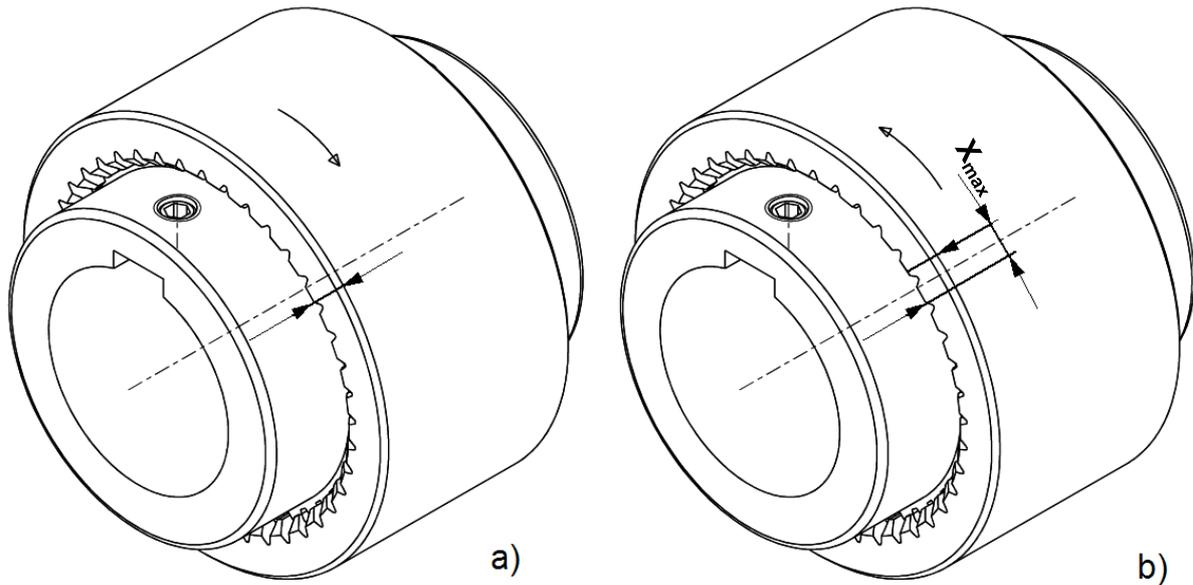

Figure 11.1: Checking the wear limit
- Turn hub (item 1) in one direction of rotation
- Make a marking on the hub (item 1) and sleeve (item 3) as shown in figure 11.1 (a)
- Turn the hub (item 1) in the other direction of rotation until stop